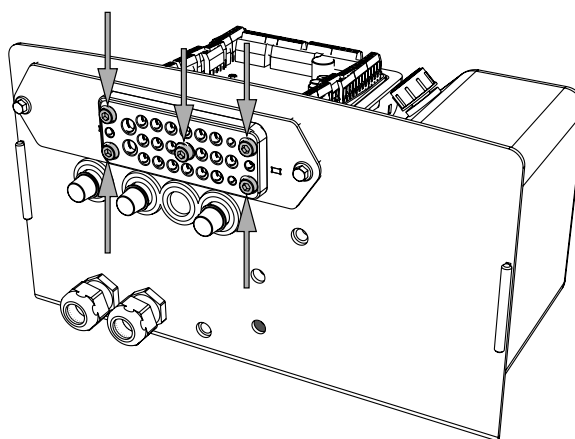

Figure 15. The cable grommet's five screws
1. Loosen the five screws on the cable grommet, see Figure 15. Cables can now be installed/removed/adjusted in the grommet. The cable should be installed together with existing cabling using cable ties.